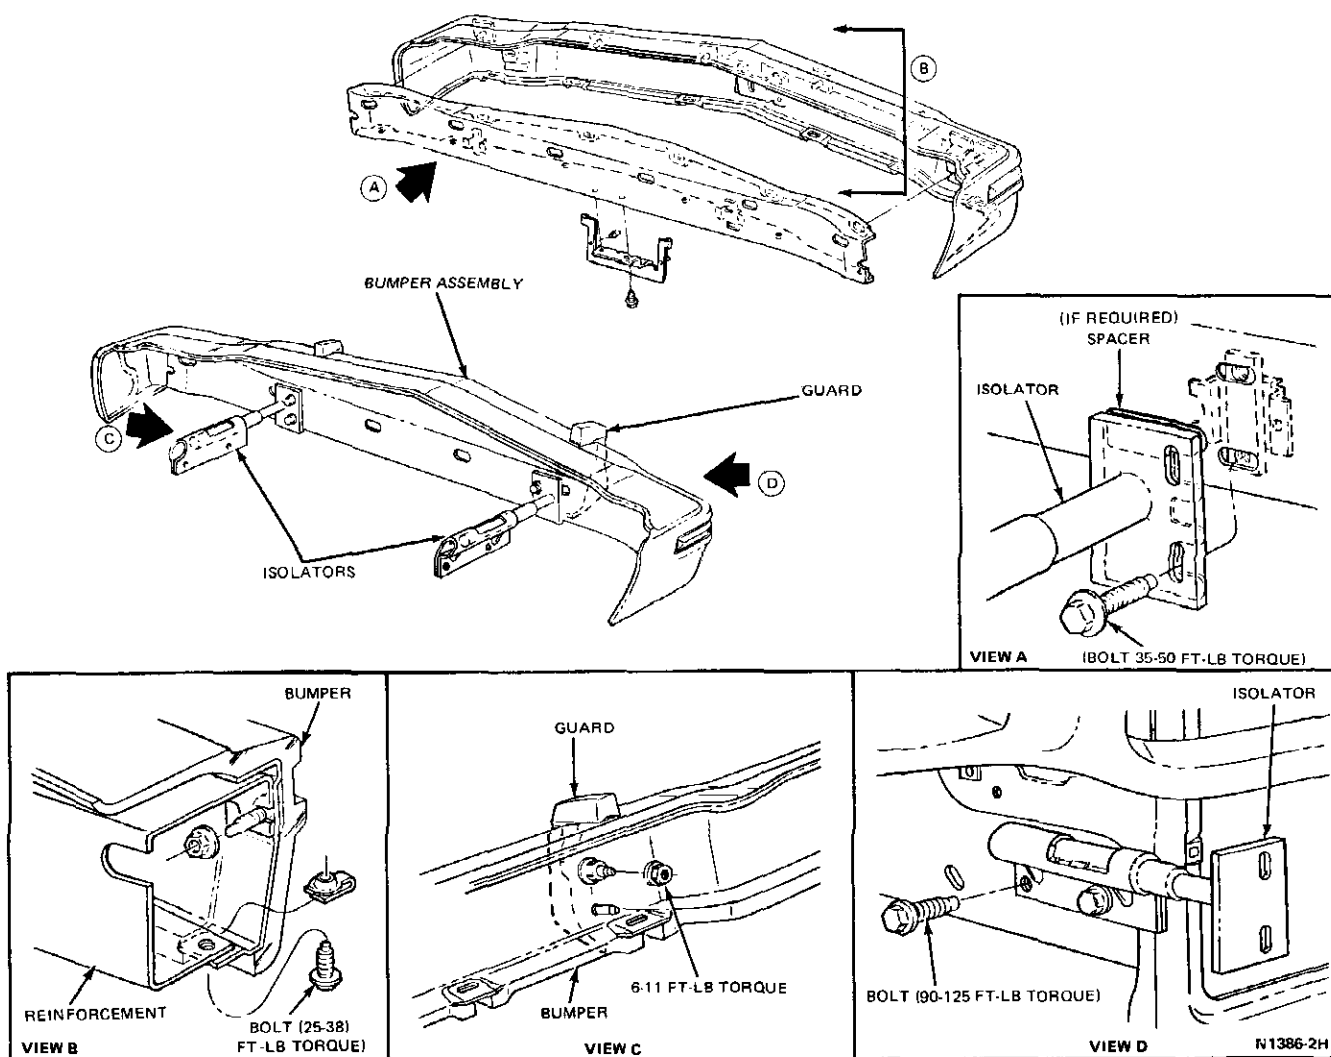

FIG. 2 Front Bumper Installation—Mustang II
2. Remove the reinforcement retaining nuts and bolts (Figs. 2 and 3), and separate the reinforcement from the bumper.
2. Inspect the isolators for fluid leakage. If leakage is found, replace the isolator (Figs. 2 and 3).
3. Position the reinforcement to the bumper and install the retaining nuts and bolts. Tighten the bolts to specification (Figs. 2 and 3).
- Install the reinforcement to the bumper if it was removed and tighten the retaining bolts and nuts to specification (Figs. 2 and 3).